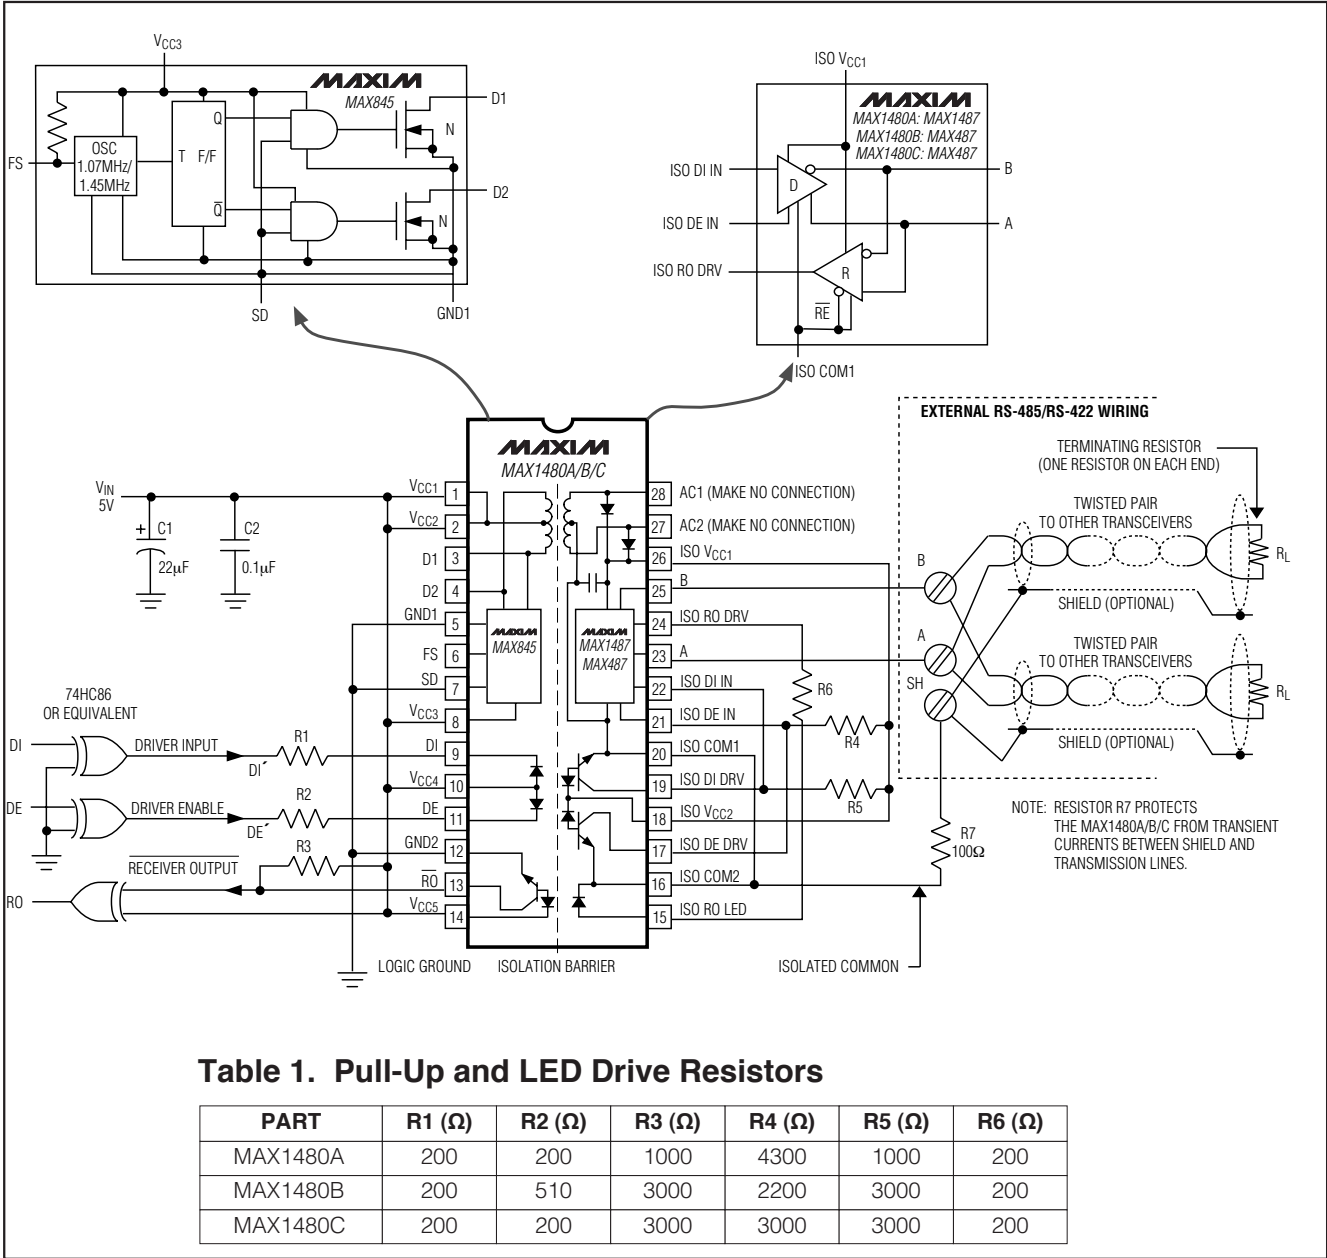
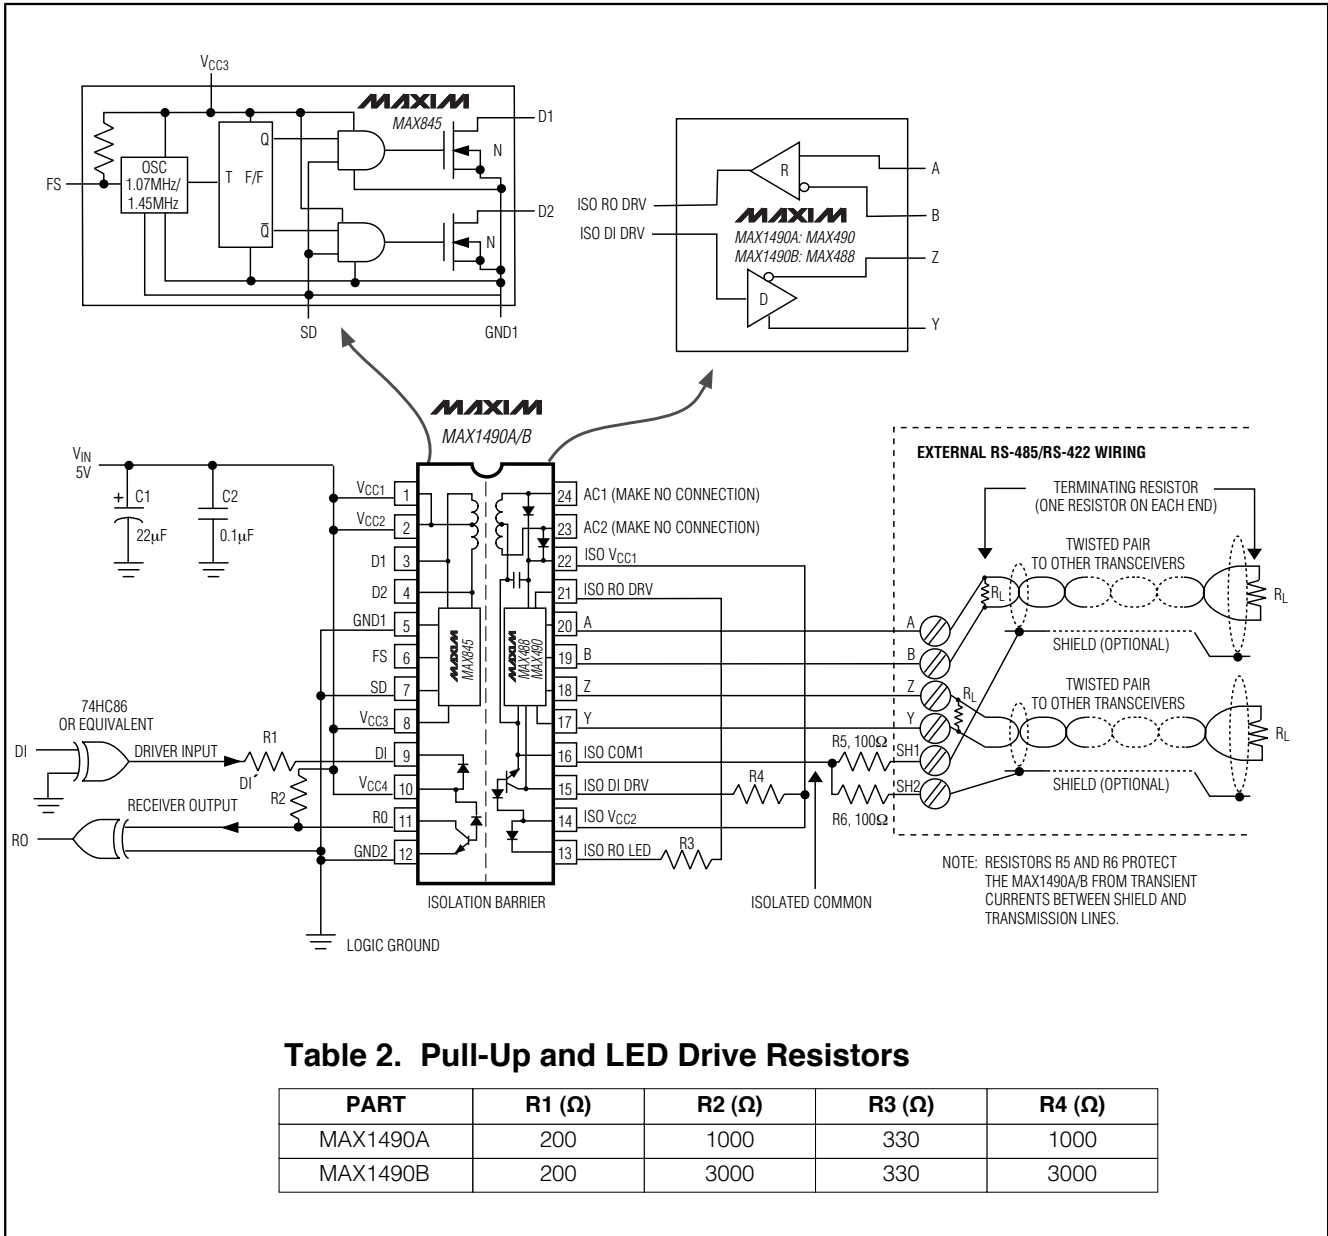

Figure 1. MAX1480A/MAX1480B/MAX1480C Detailed Block Diagram and Typical Application Circuit
Figure 2. MAX1490A/MAX1490B Detailed Block Diagram and Typical Application Circuit
Note 2: For DE' and DI' pin descriptions, see *Detailed Block Diagram and Typical Application Circuit* (Figure 1 for MAX1480A/MAX1480B/MAX1480C, Figure 2 for MAX1490A/MAX1490B).
Note: For DE⁺ and DI⁺ pin descriptions, see *Detailed Block Diagram and Typical Application Circuit* (Figure 1 for MAX1480A/B/C, Figure 2 for MAX1490A/B).
The MAX1480A/MAX1480B/MAX1480C/MAX1490A/MAX1490B are complete, electrically isolated, RS-485/RS-422 data-communications interface solutions. Transceivers, optocouplers, a power driver, and a transformer in one standard 28-pin DIP package (24-pin for the MAX1490A/B) provide a complete interface. Signals and power are internally transported across the isolation barrier (Figures 1, 2). Power is transferred from the logic side (nonisolated side) to the isolated side of the barrier through a center-tapped transformer. Signals cross the barrier through high-speed optocouplers. A single +5V supply on the logic side powers both sides of the interface. The MAX1480A/B/C offer half-duplex communications while the MAX1490A/B feature full-duplex communication. The functional input/output relationships are shown in Tables 3–6.
* For DE[⎚] and DI[⎚] pin descriptions, see *Detailed Block Diagram and Typical Application Circuit* (Figure 1 for MAX1480A/B/C, Figure 2 for MAX1490A/B).
The MAX1480A/MAX1480B/MAX1480C/MAX1490A/MAX1490B are specified and characterized using the resistor values shown in Table 1 of Figure 1 and Table 2 of Figure 2. Altering the recommended values can degrade performance.
The isolated common may be completely floating with respect to the logic ground and the effective network ground. The receiver input resistors will cause the isolated common voltage to go to the mean voltage of the receiver inputs. If using shielded cable, connect the isolated common to the shield through a 100Ω resistor. In the case of the MAX1490, each shield should have its own 100Ω resistor (Figures 1, 2, 13, and 14).